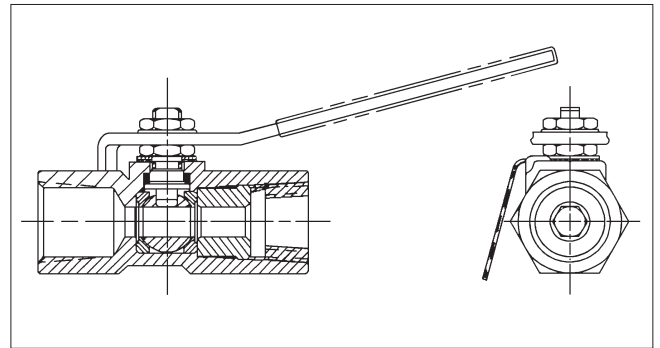

Figure 1.
3. The Series 3000 is an end entry design with an internal insert as shown in **(Figure 1)**. The insert contains a hex or slot drive which can be identified by looking into the end of the valve before installation. Although the Series 3000 valve may be disassembled it is not considered repairable. If valves with Monel[®] or Hastelloy C[®] trim require repair, contact the factory.